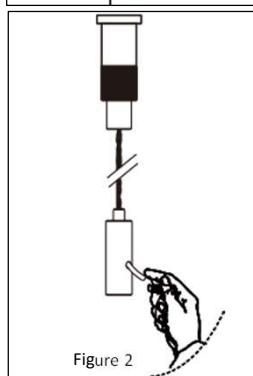

Figure 2
6. Adjust the length of each cable. *See Figure 2.*